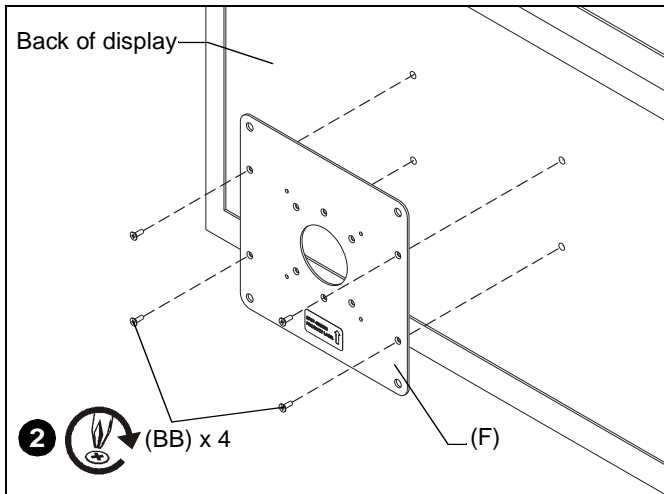

Figure 4
2. Assemble interface bracket (F) to display using four M4 x 12mm Phillips flat head screws (BB). (See Figure 4)